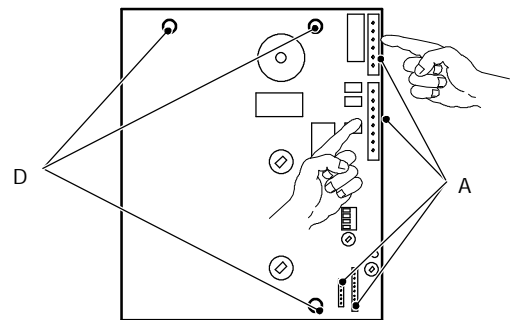

fig. 45
- 2 Delicately flex the hooks indicated in fig. 45 and disconnect the four connectors A
- 4 unscrew the three screws D and remove the circuit (fig. 45);